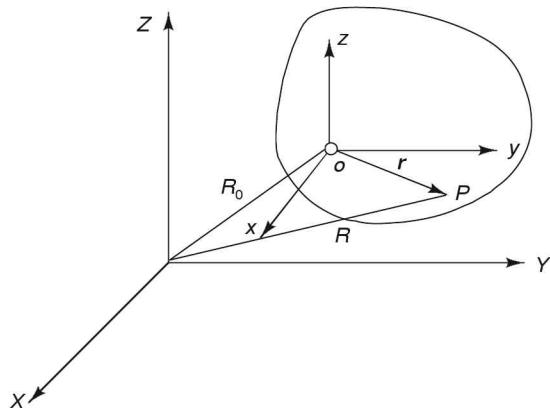

FIGURE 13.6 Derivative of positive vector from fixed frame.
- (f) *Derivative of a positional vector (\mathbf{r}) located in moving frame and being referred to fixed frame.* Consider the positional vector (\mathbf{r}) of point P located in a moving frame. The position vector of point P is R from the fixed frame as shown in Figure 13.6. It is evident from the figure